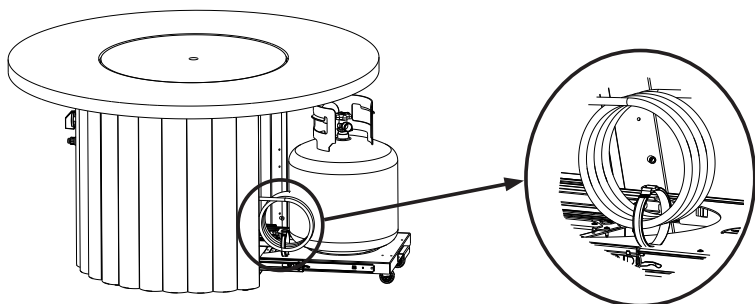

Figure E.4
4. Secure excess regulator hose to hook-and-loop strap on tank tray. Slide tank tray back into base. Ensure hose is not pinched by the tray or against bottom of burner. See Figure E.4.